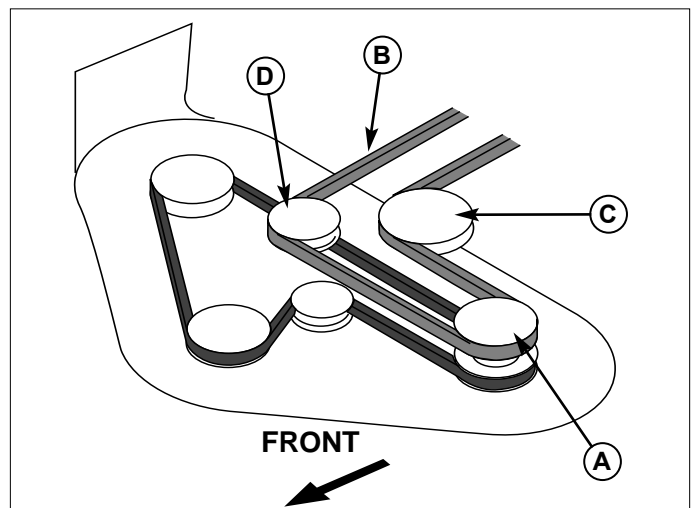

Figure 42. Mower PTO Belt Routing
5. Remove the old belt and replace with a new one. Make sure the V-side of the belt runs in the pulley grooves (Figure 42).